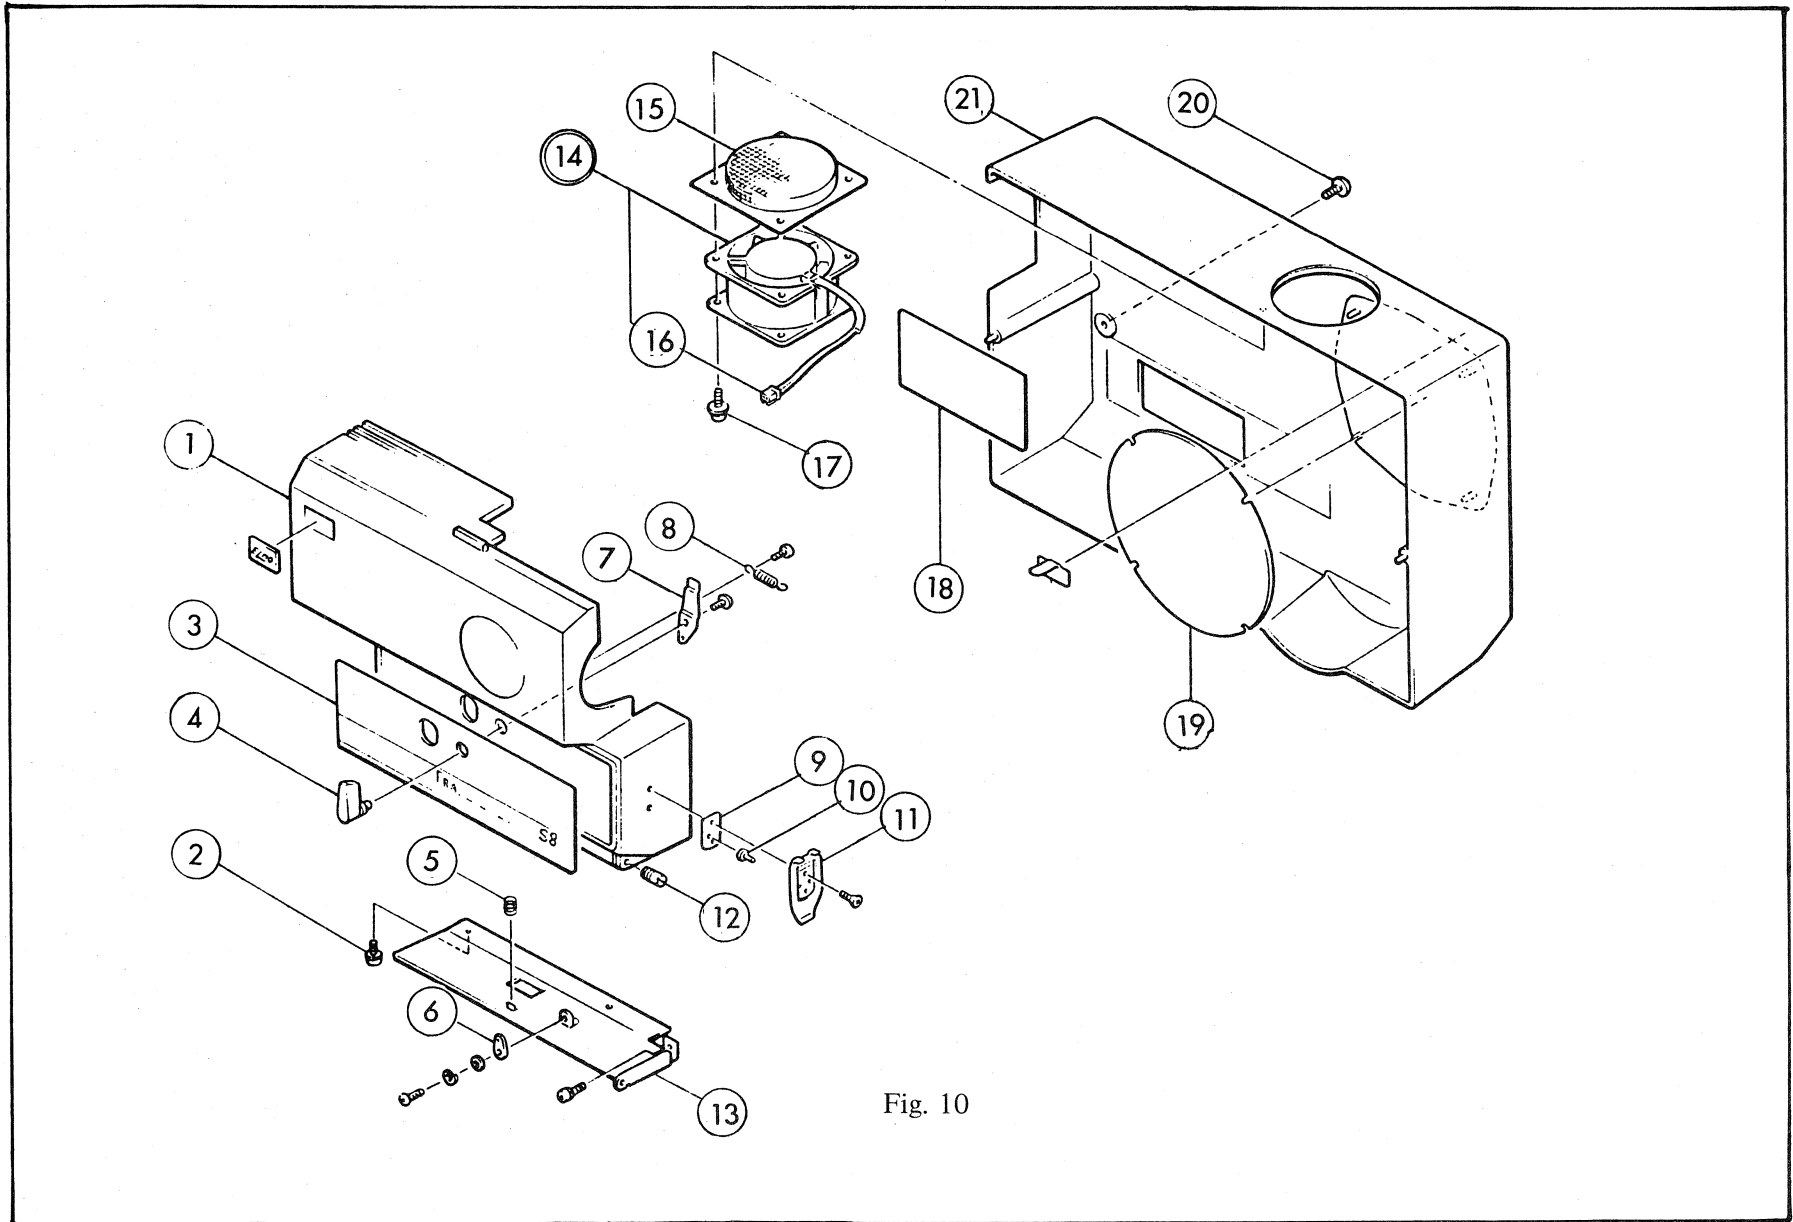

Fig. 10
### III – 2 – 2 Machine Cover Assy and Rear Cover (See Fig. 10)
1. Unscrew 2 pieces of ⑳ to remove ㉑, and pull out ㉒.
2. Remove ① by unscrewing 1 piece of ⑫.
3. Disconnect the spring attached to ⑥, and remove ⑬ by unscrewing 3 pieces of ②.
4. See Fig. 10 for further disassembly.
1. See Fig. 10 for the installation direction of ⑭, tightening the 2 pieces on this side only with ⑰.
2. After installing ④, ⑦ and ⑧, make sure of the smooth function.